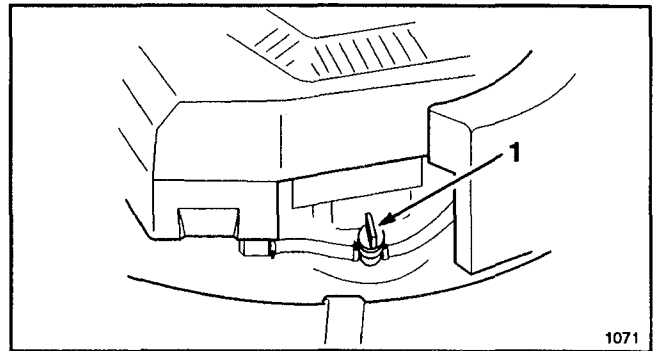

Figure 9
4. Open fuel shut-off valve on engine (Fig. 9).
2. Open the fuel shut-off valve (Fig. 9) if it is not already open.